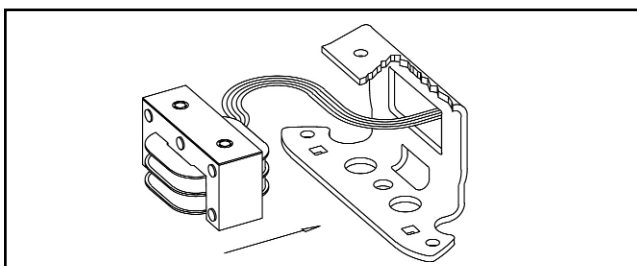

Figure 6
2. Remove acorn nuts (23), washers (22), and pull cover (20) off. (You may have to tap lightly with a rubber mallet.)
4. Replace with new magnet assembly, making sure shock mount is in place. Feed coil wires through hole in back of bracket (15C) as shown in Fig. 6. Tighten mounting screws to 55-60 lb. in. torque.
8. Replace cover (20), washers (22), and acorn nuts (23). Tighten nuts to 5 lb.ft. torque.